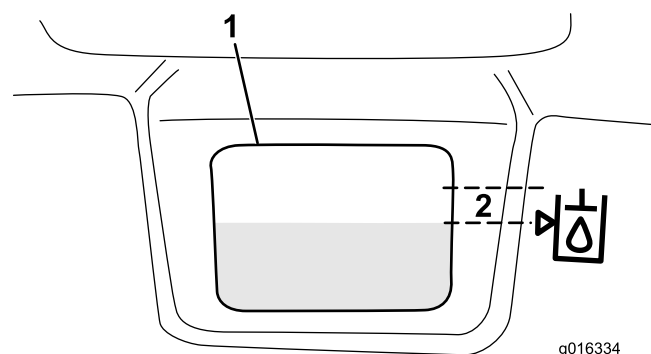

Figure 32
3. Slowly fill the reservoir with the appropriate hydraulic fluid until the level is at or within 0.25 inch (6 mm) of the arrow in the symbol next to the white window in the front of the reservoir (Figure 32). Do not overfill.